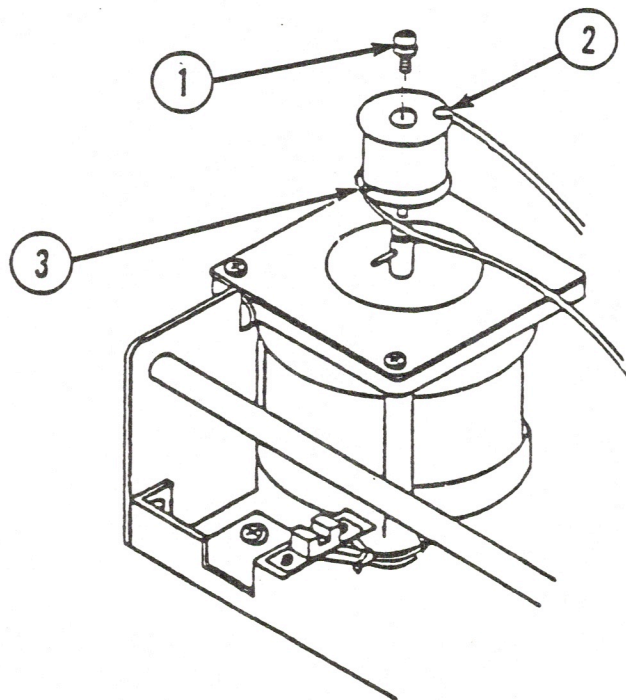

FIGURE 7
11. Use a phillips screwdriver to remove the screw from the top of the motor pulley. (See Figure 7, #1.)
14. Remove the top end of the carrier wire. (See Figure 7, #2.)